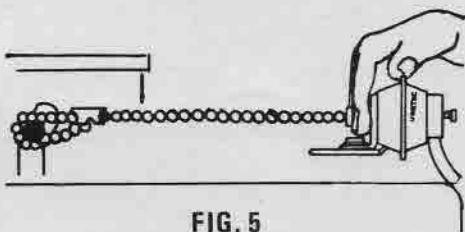
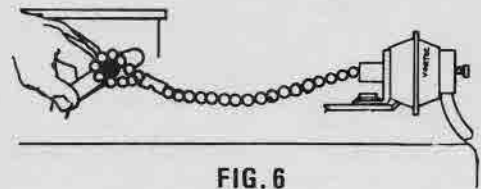

FIG. 5
FIG. 6
- Check for proper installation by manually activating the throttle actuator (see FIG. 5) and completely opening the throttle (see FIG. 6).